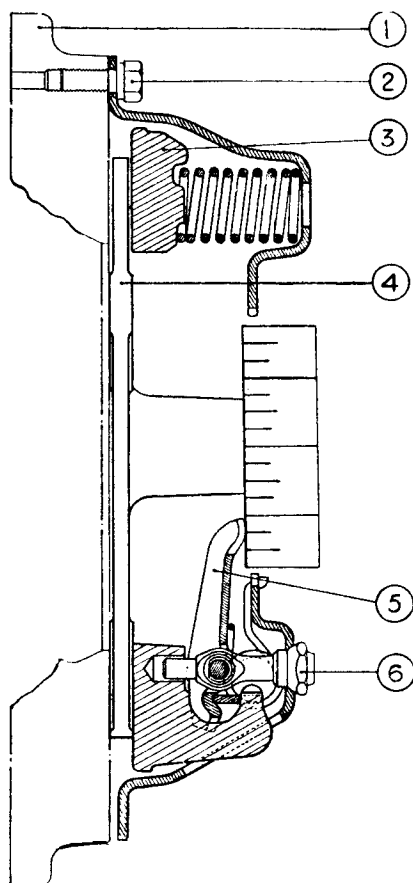

Fig. 13. Release lever adjustment.
(1) Using a Borg & Beck gauge plate (Fig. 13)
- (a) Mount the clutch on the actual or a spare flywheel (1, Fig. 13) or alternatively clamp it down to a flat surface, with the gauge plate (4) occupying the position normally taken by the driven plate. The ground lands of the gauge plate should each be located under a release lever (5).
- (b) Adjust the levers by turning the eyebolt nuts (6) until the levers are just in contact with a short straight edge resting upon the boss of the gauge plate.